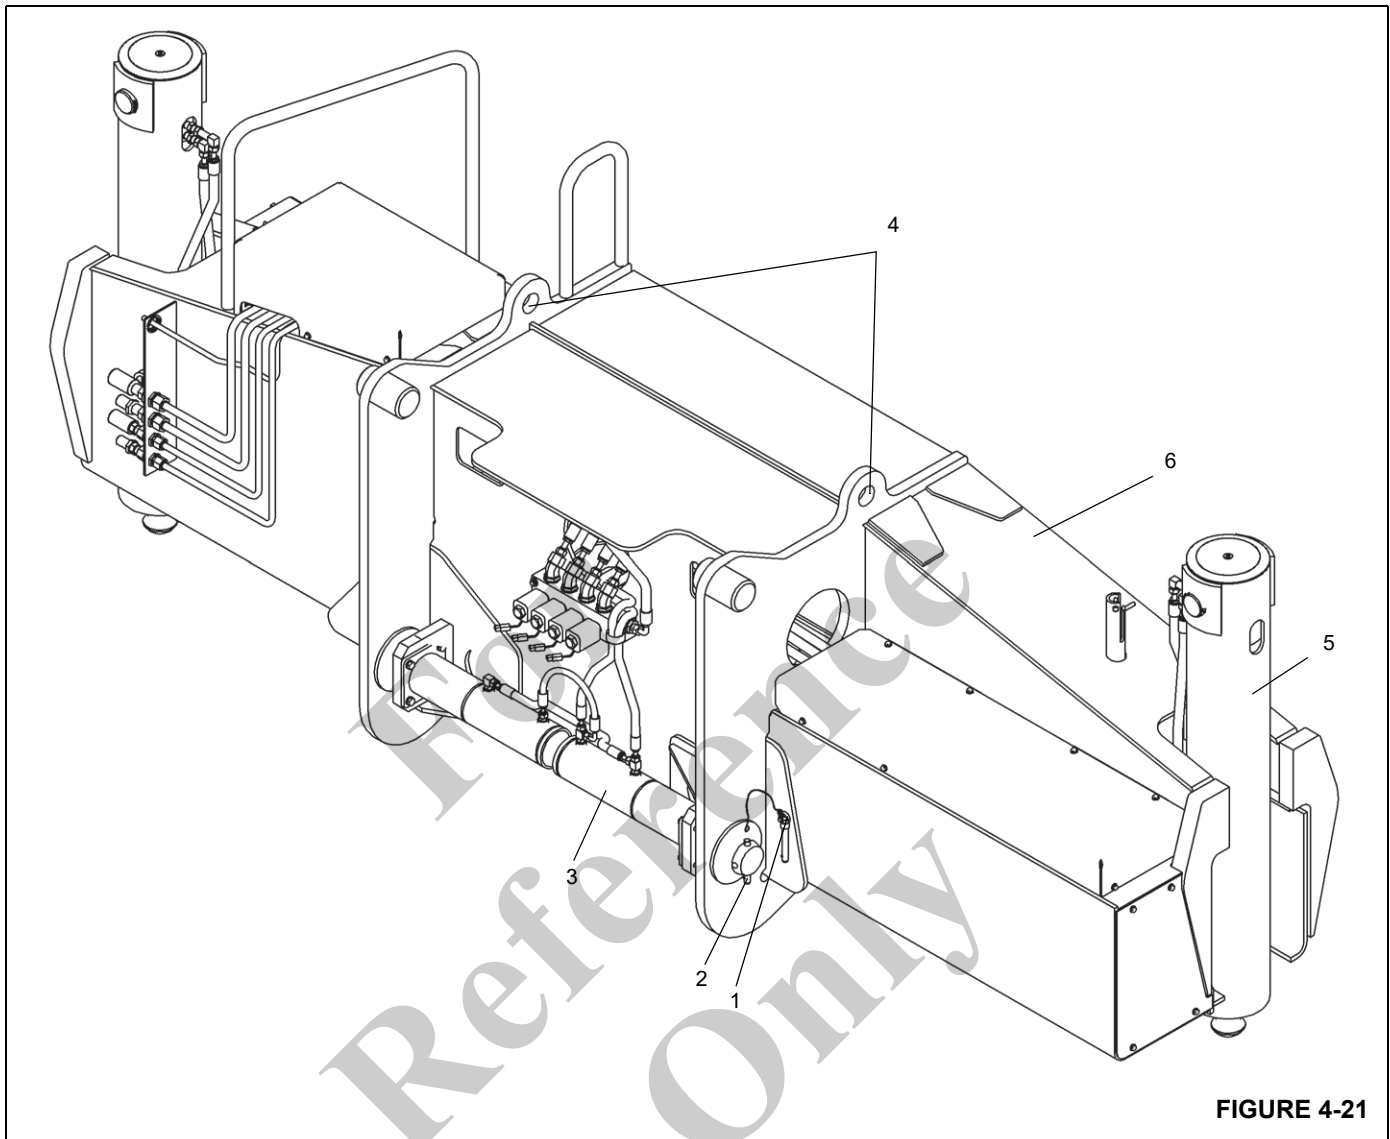

FIGURE 4-21
- Connect sling assembly to the lifting lugs provided on each end of the outrigger box (Figure 4-21).